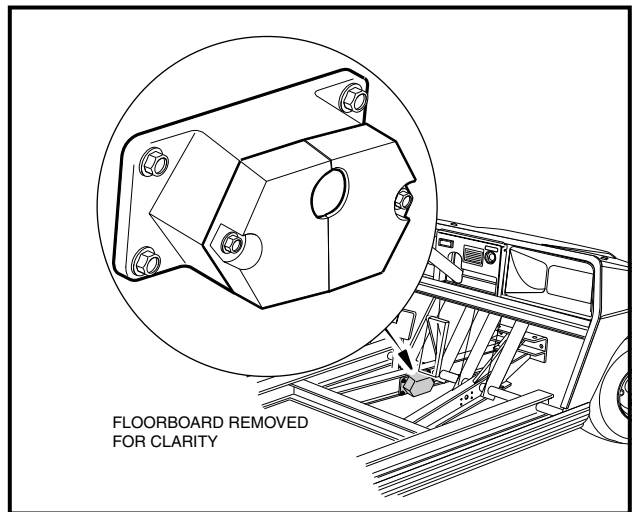

Figure 3-2 Electric Vehicle Equipped with CVP (Continuously Variable Potentiometer)
- CVP (Continuously Variable Potentiometer) (**Figure 3-2, Page 3-3**).